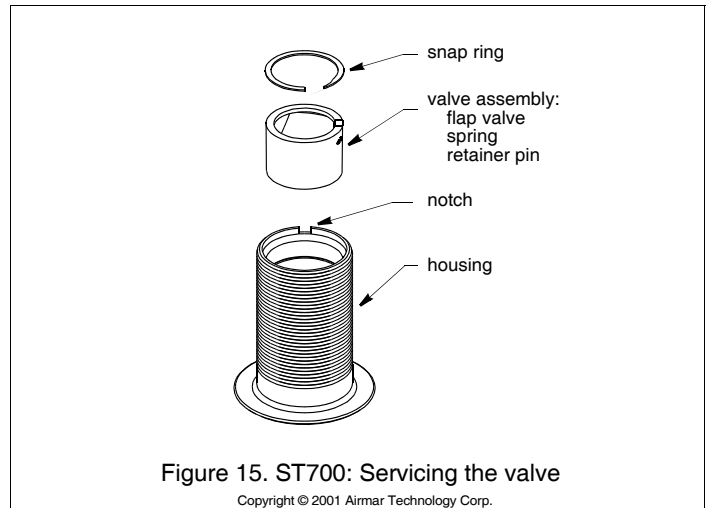

Figure 15. ST700: Servicing the valve
3. Remove the snap ring from the valve assembly using a screwdriver to pry the end of the ring free. Lift the ring out (see Figure 15).
7. To reinstall the valve assembly, first reassemble the flap valve in the valve housing with the retainer pin and spring in place (see Figure 15).